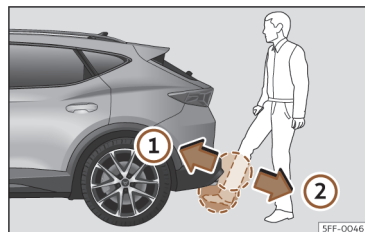

Fig. 82 Rear lid with sensor-controlled opening (Easy Open).
- With a brisk movement, bring your foot and lower leg as close as you can to the bumper. The lower part of the leg needs to be close to the upper sensor area and your foot to the lower sensor area >>> **Fig. 82 ①**.
- Quickly remove your foot and lower leg from the sensor areas >>> **Fig. 82 ②**. The rear lid will open automatically.